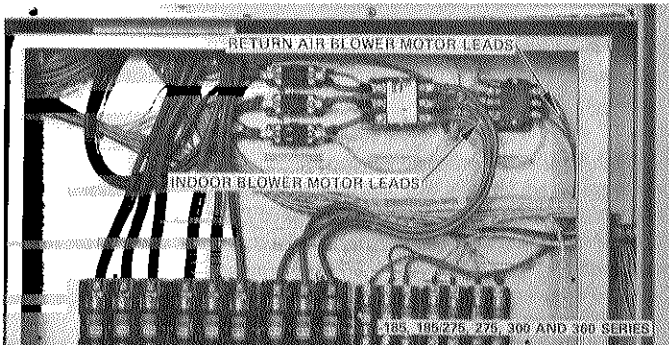

FIGURE 101
- 3 - 415 and 600 Units Only - Remove indoor and return air blower motor contactor access panel. Refer to Figure101.
- 5 - Check amperage draw on each of the (3) wiring leads to the motor. See Figure 95 (185, 275, 300, 360 units) or Figure101 (415,600 units).